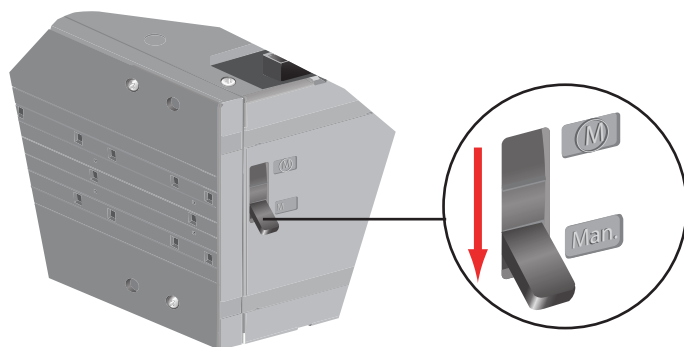

Figure 5-2 Motor/Manual selection in the Man. position
2.Turn the Motor/Manual selector to the Manual(Man.)position,see Figure 5-2.